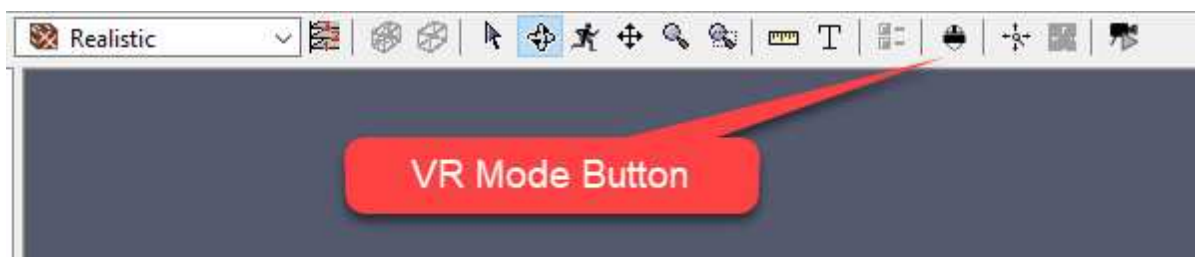

Figure 41. VR Button
4. Verify that there is a VR button in the main toolbar as shown in Figure 41. If it is greyed out, see Section 3.4.